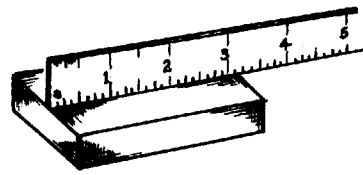

FIG. 2 READING A STEEL RULE
3. Read the graduations on the rule from left to right by noting which line on the rule coincides closest with the right hand edge of the stock (Fig. 2).